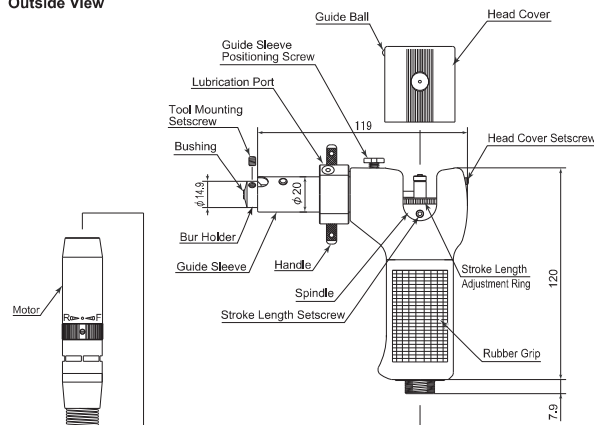

Fig. 2
- Loosen the head cover setscrew with the allen wrench (Fig. 2).
- ① Loosen the head cover setscrew with provided allen wrench (2mm) (Fig. 2).
- ② Slide the head cover up ward, and remove (Fig. 2).
- ⑥ Insert the head cover and push it down, aligning the guide groove on attachment and the guide ball on the head cover (Fig. 2).
- ⑦ Fasten the head cover setscrew with the allen wrench (2mm) (Fig.2).